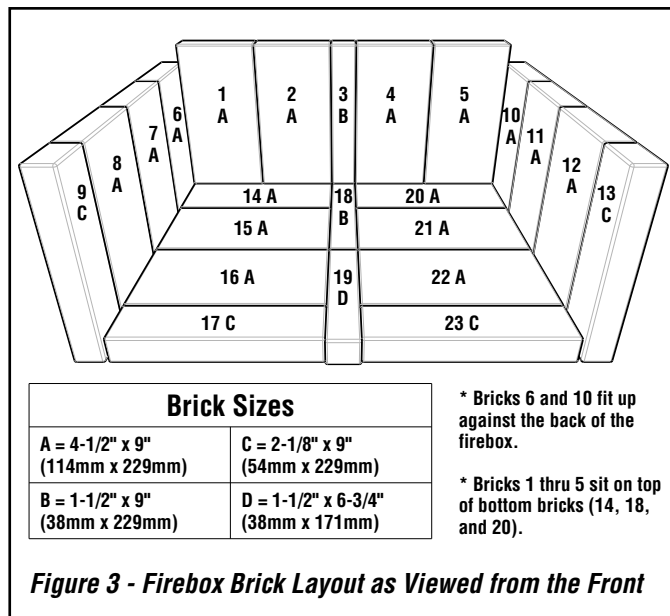

Figure 3 - Firebox Brick Layout as Viewed from the Front
1. Install bricks #1-23 as shown in **Figure 3**.